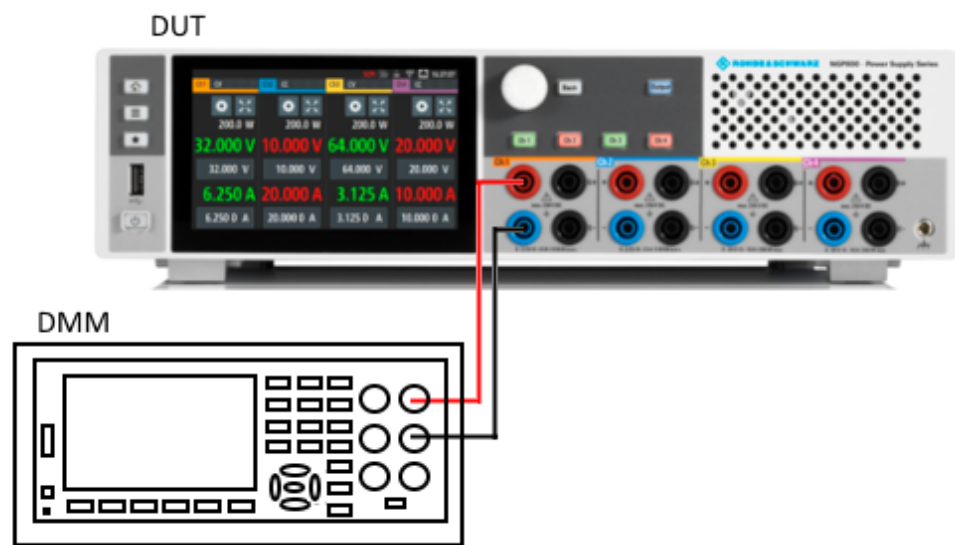
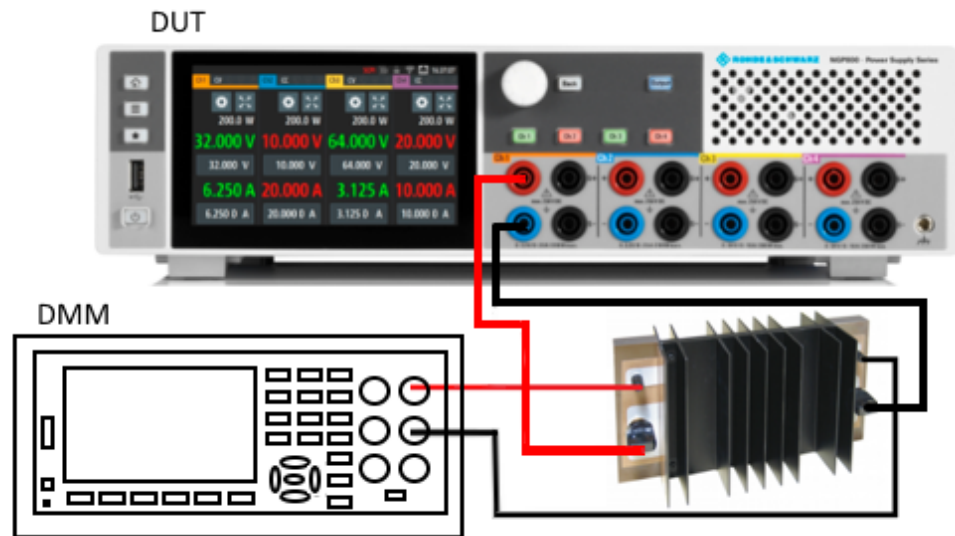

Figure 6-44: Voltage adjustment setup
Figure 6-45: Current adjustment setup
- Connect the DMM to the instrument and monitor the measured voltage or current. See Figure 6-44 and Figure 6-45.
- Depending on the types of adjustment (voltage or current), setup the instruments illustrated in Figure 6-44 or Figure 6-45.